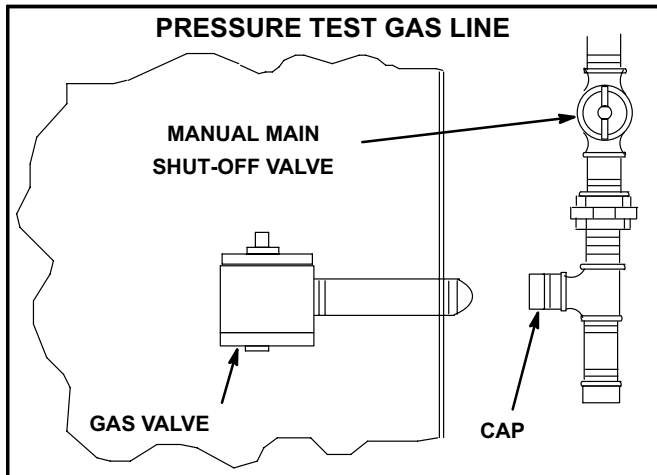

FIGURE 9
**When pressure testing gas lines, the gas valve must be disconnected and isolated. Gas valves can be damaged if subjected to more than 0.5 psig (3.48kPa). See figure 9.**